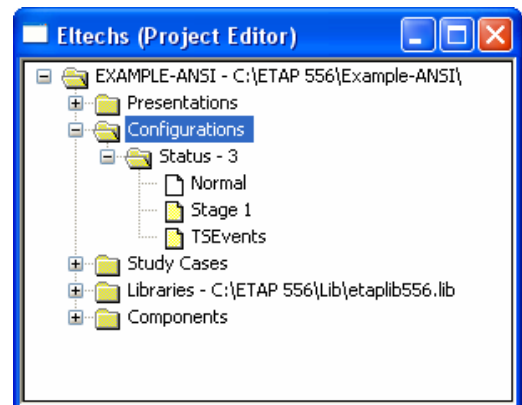

Fig. 1
The “Configurations” folder in the Project View provides access to the status configurations of your ETAP project. See Fig. 1
- (b) Expand the “Configurations” folder and right-click the “Status-X” folder (where “X” is an integer that refers to the number of existing configurations). See Fig. 1.
- (a) Right-click the “Status-X”. See Fig. 1.